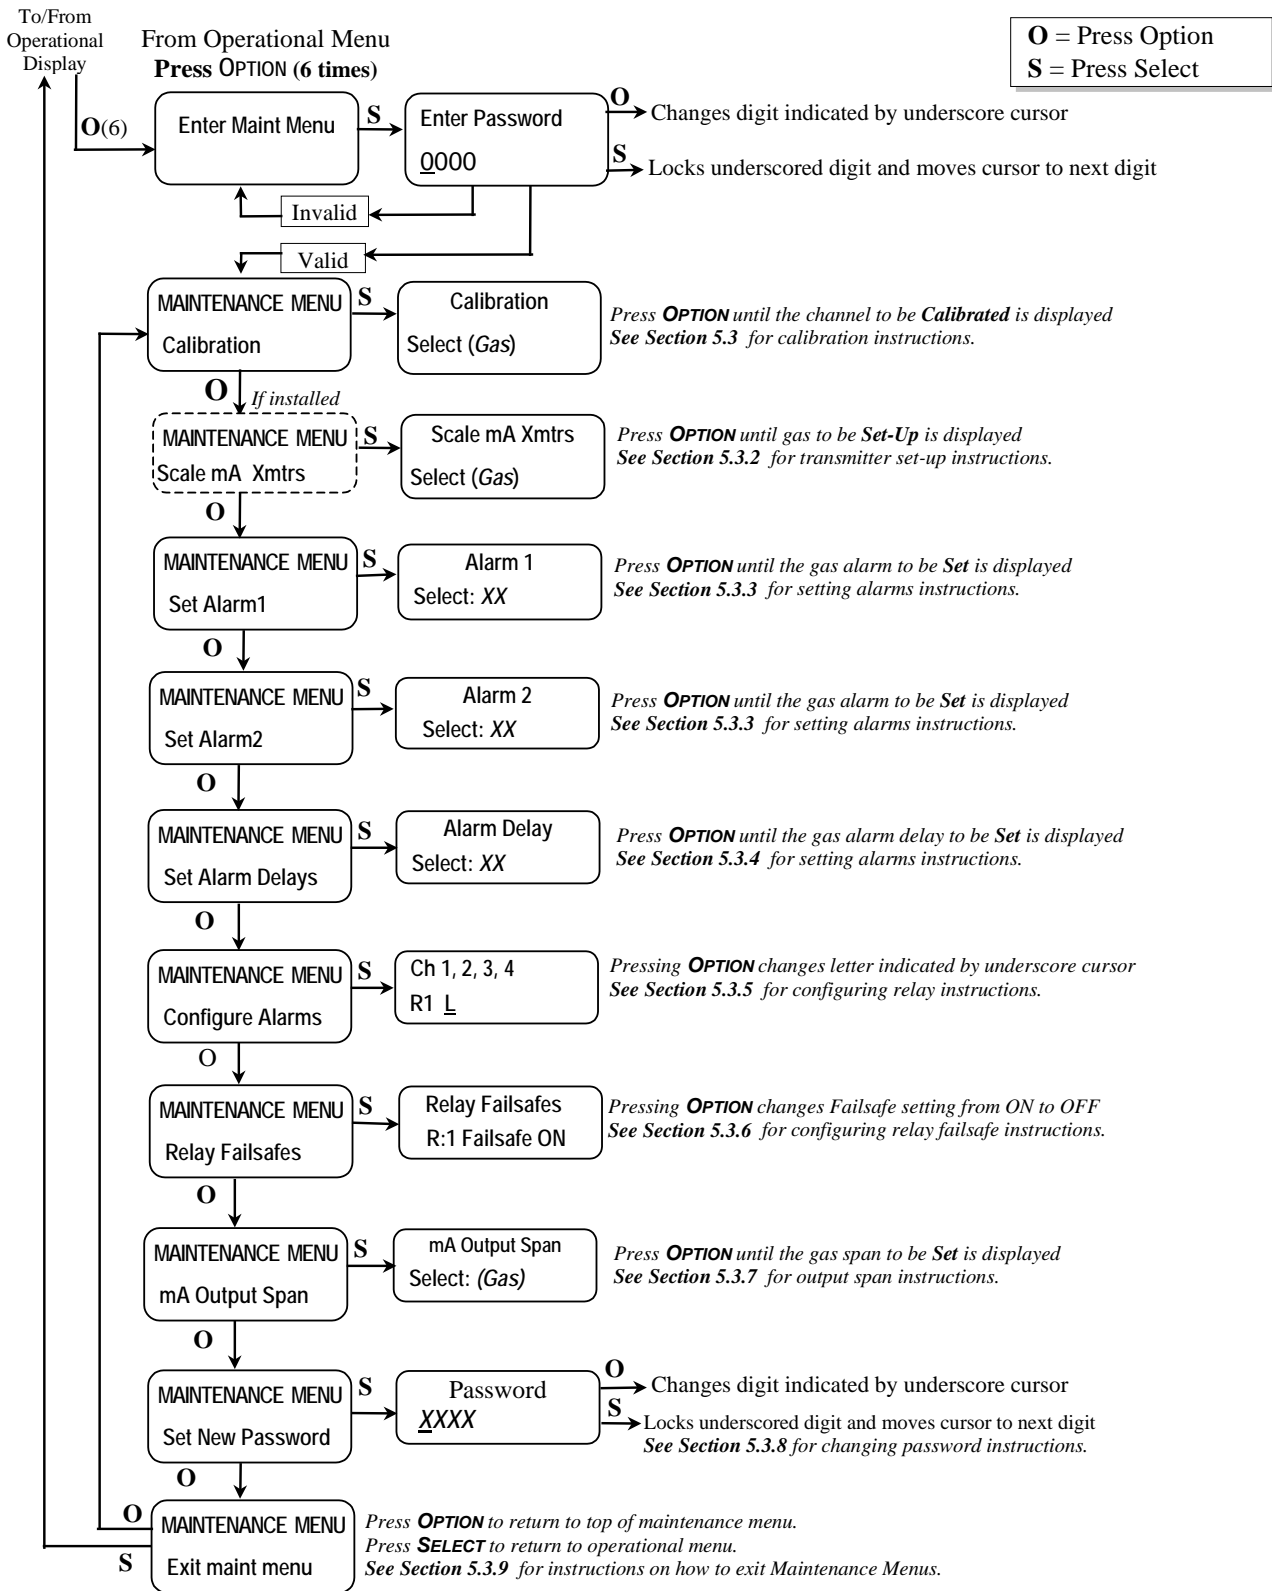

Figure 7: ProAir 2200 Maintenance Menu Flow Chart
The **PROAIR** maintenance menu is accessed by entering the proper password with the **OPTION** and **SELECT** switches. See **Section 5.2.2 Figure 7** for full Maintenance Menu flow chart.
The maintenance menu diagram is shown in **Figure 7 Maintenance Menu Flow Chart**. From the operational display, press the **OPTION** switch 6 times; "Enter MAINTENANCE Menu" is displayed.
- Press the **SELECT** switch, the gas & current reading is displayed in upper portion of display. The mV reading & "LowCal 0" is displayed in the lower portion of display. This is the LowCal setting, *usually zero*, clean air must be supplied to the sensor. This reading needs to be at or near zero. If it is not, then a cylinder of clean 20.9 air should be used. See Figure 7 if this is required.
Enter the maintenance menu by repeatedly pressing **OPTION** switch, until the maintenance menu is displayed. See **Figure 7, ProAir 2200 Maintenance Menu Flow Chart**.